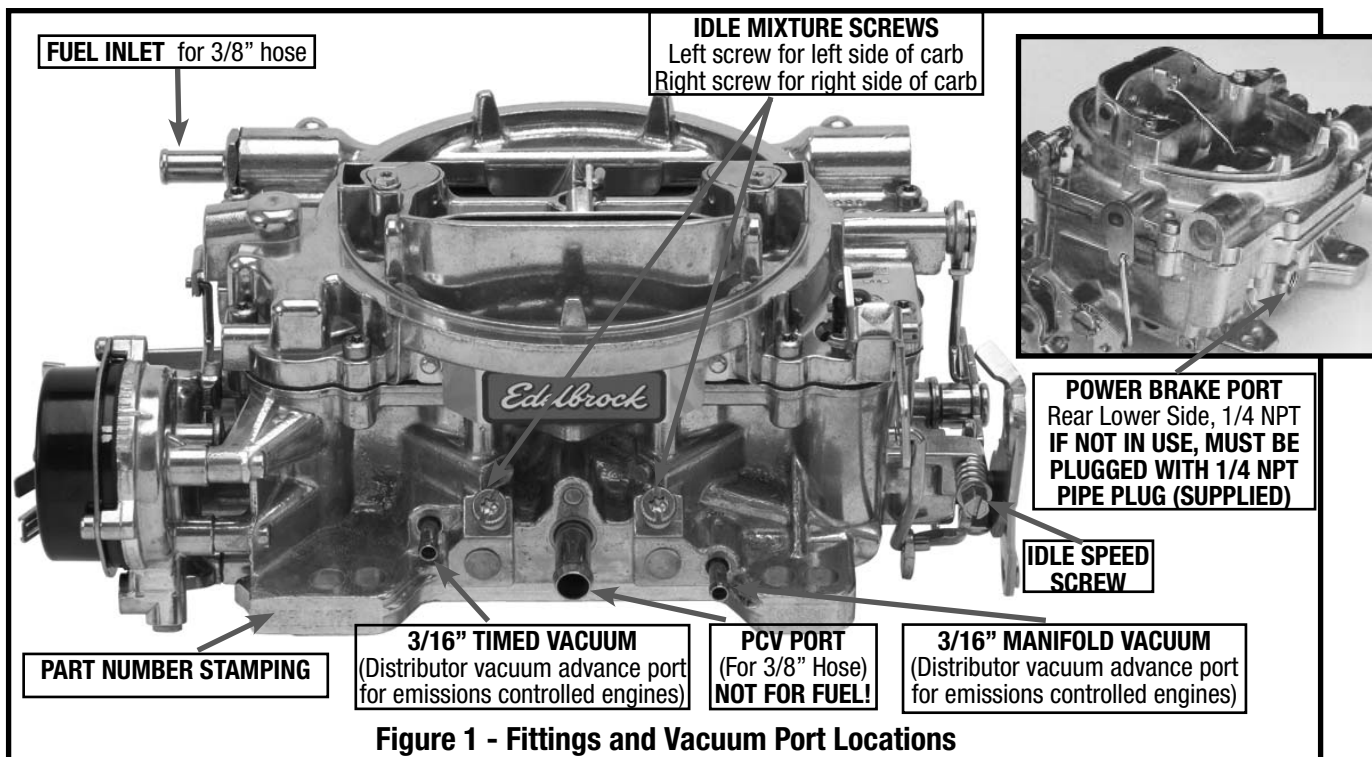

Figure 1 - Fittings and Vacuum Port Locations
4. Connect all vacuum hoses to their proper location on the carburetor (See Fig. 1). Replace hoses that appear brittle or cracked to prevent vacuum leaks.